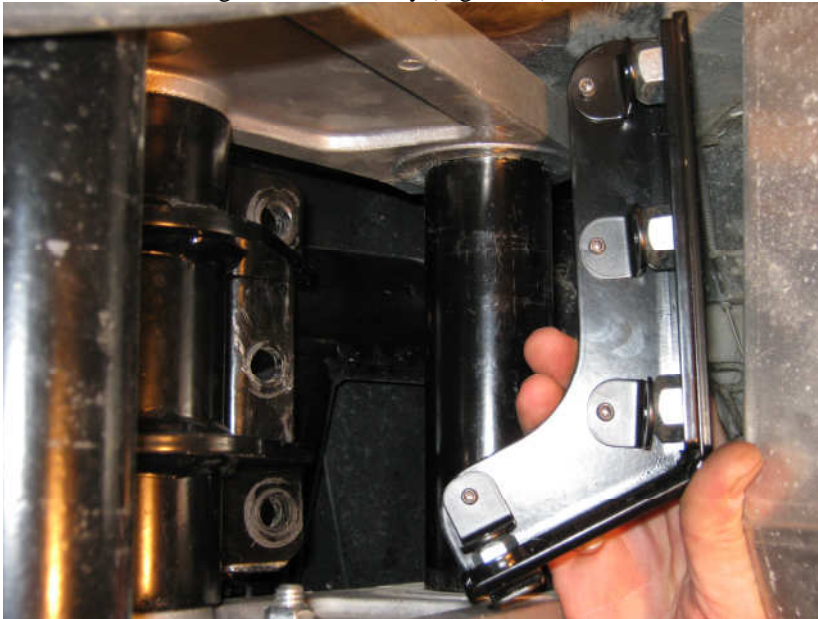

Figure 14. LH Reinforcing bracket assembly
3. LH and RH reinforcing bracket assembly (Figure 14).